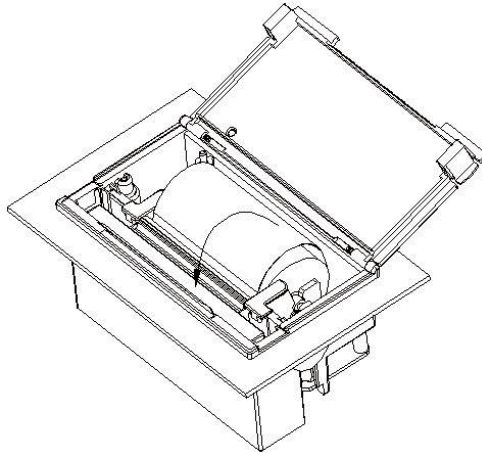

Fig. 2-7
1. When the paper roll is fluffy until its highest point exceeds the upper cover of the printer, it will cause paper jam. At this time, wind up the paper roll tightly in the direction shown in Fig. 2-7 and then close the upper cover.